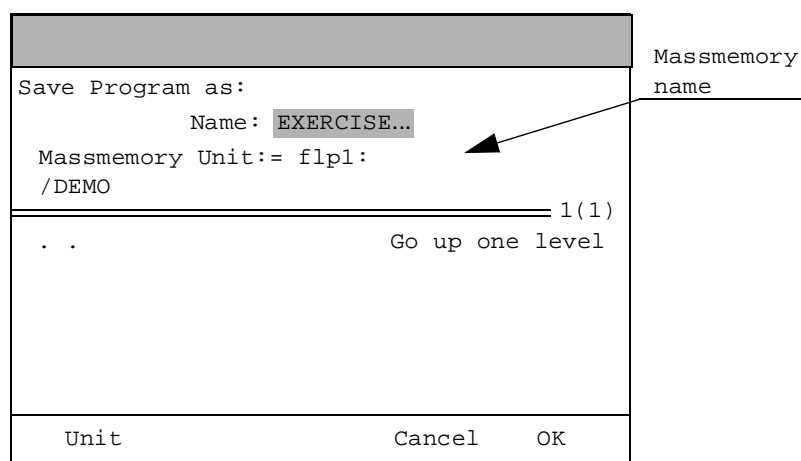

Figure 65 Dialog box for Save Program as.
3. Select **File: Save Program as** and press **Enter**. (You could, alternatively, use the numeric keyboard to enter the number shown in front of the function name.) The dialog box in Figure 65 appears on the display.
4. Press **Unit** to choose the type of mass storage, if it is not already chosen; "flp1" should appear on the third line of the window (see Figure 65).